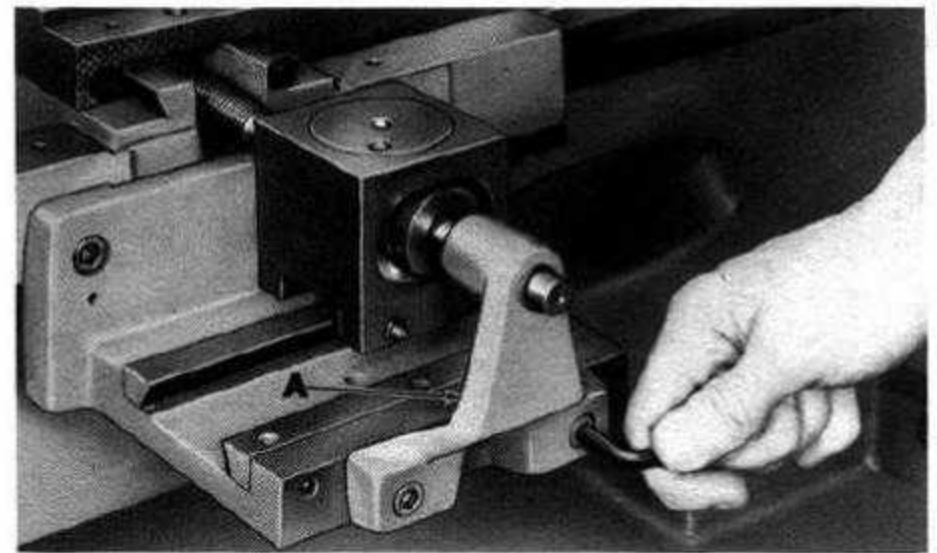

Figure 6
10. Slide taper screw bearing support (A, fig. 6) onto splined screw, and bolt loosely to support bracket.